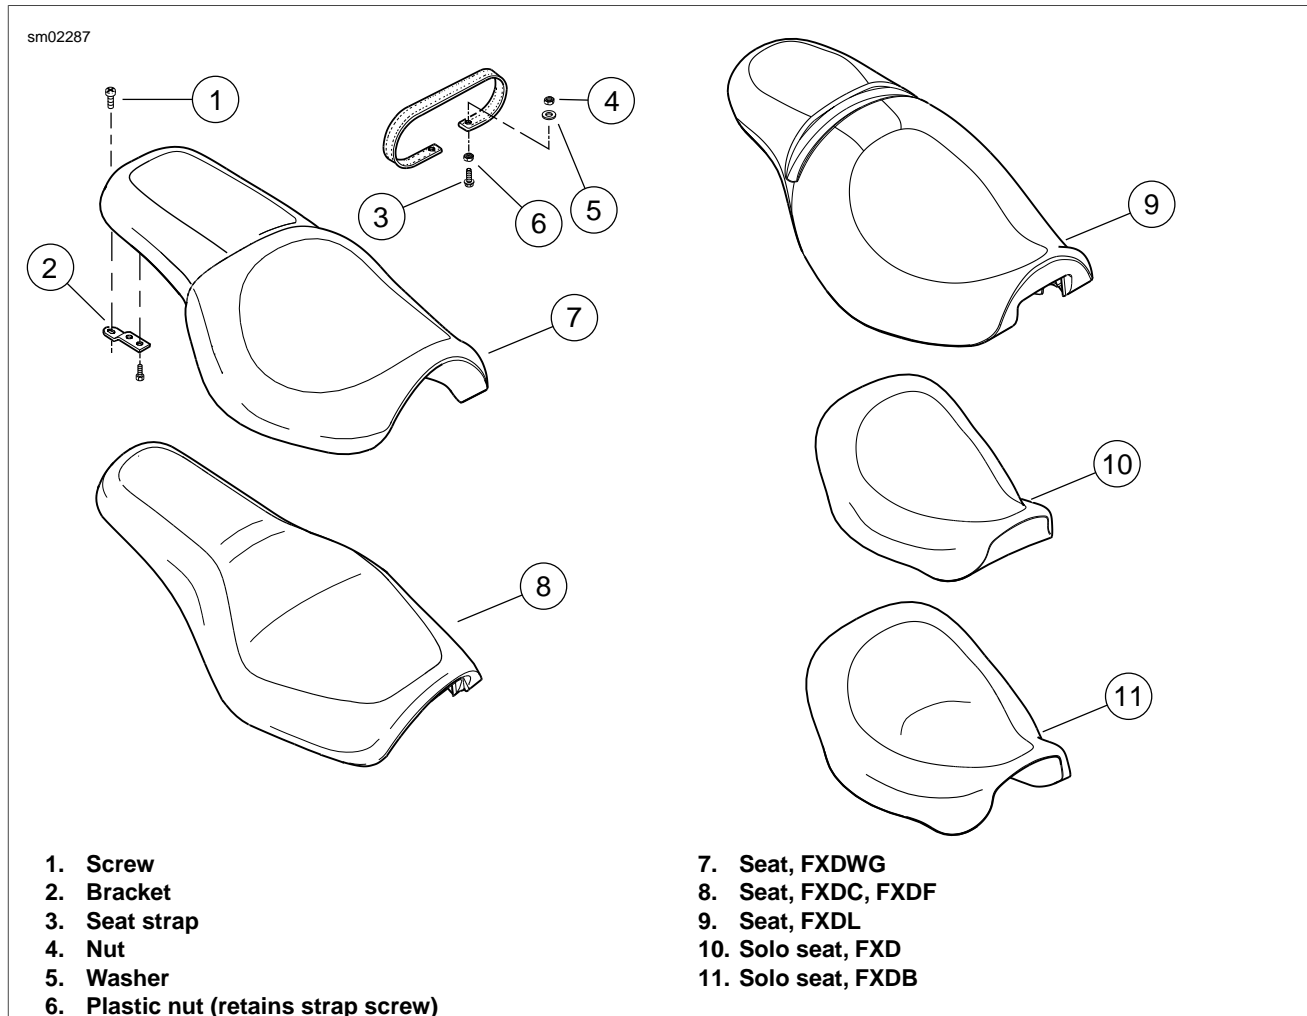

Figure 2-111. Seat
See Figure 2-111. There is a nylon retaining clip between the rear seat bracket and the fender. DO NOT lose this clip, substitute a clip of different material or install the seat without this clip. Any of the above actions will result in scratched fender paint. The nylon retaining clip secures the seat screw nut.
1. See Figure 2-111. Remove screw (1) from rear seat bracket (2). (Nylon clip remains with fender assembly.)
1. See Figure 2-111. Install seat strap.
- a. Fasten nut (4) and washer (5) above seat strap on frame.
- b. Tighten nut (4) to 60-90 **in-lbs** (6.78-10.17 Nm).